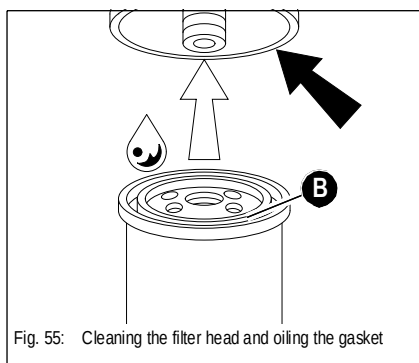

Fig. 55: Cleaning the filter head and oiling the gasket
- 6 Apply a thin coat of engine oil to the rubber seal (fig. 55/**B**) of the new oil filter cartridge